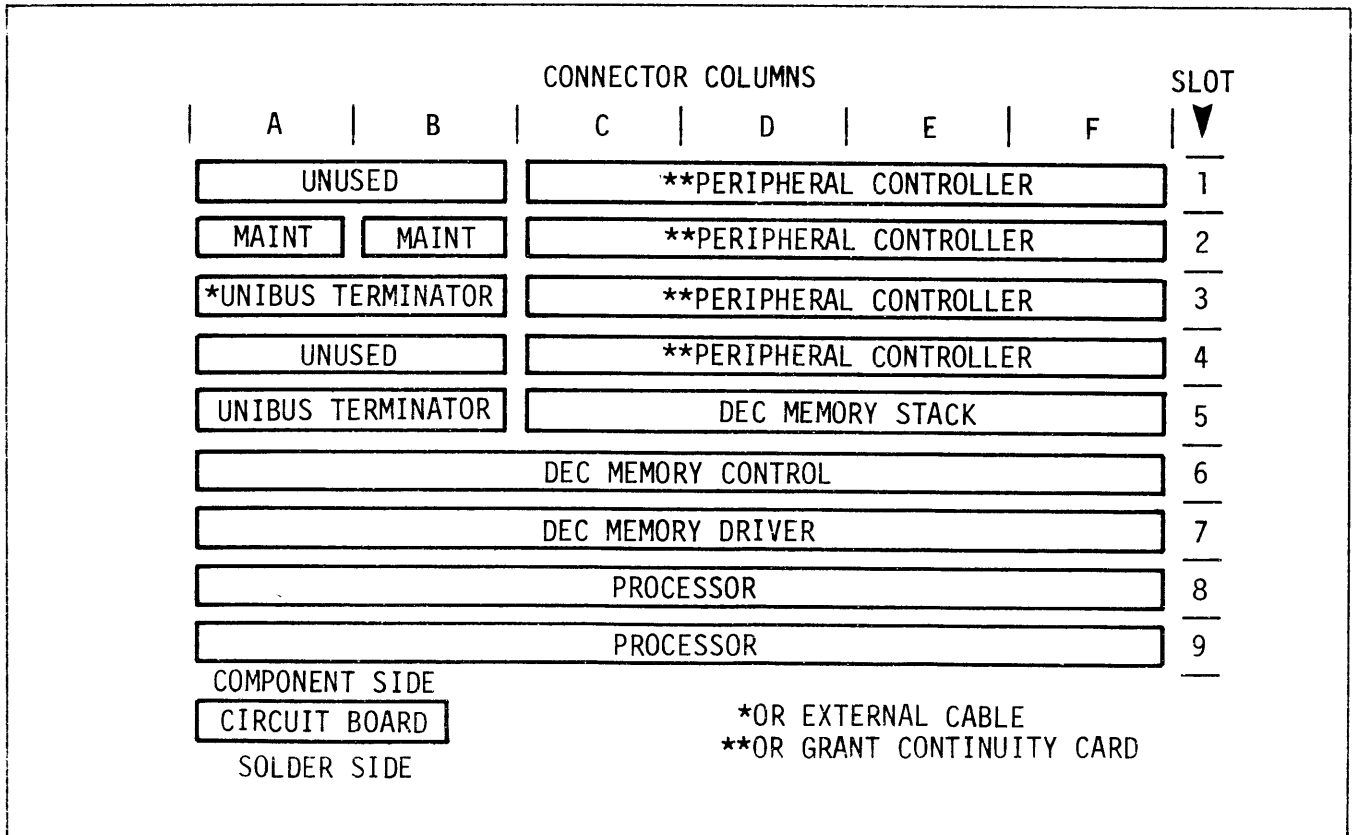

Figure 4-2. DEC PDP-11/05 and PDP-11/10 Standard Module Utilization - Configuration 2 (8K)
- b. Configuration 2 is wired for 8K of memory with four small-peripheral controller slots (Figure 4-2).